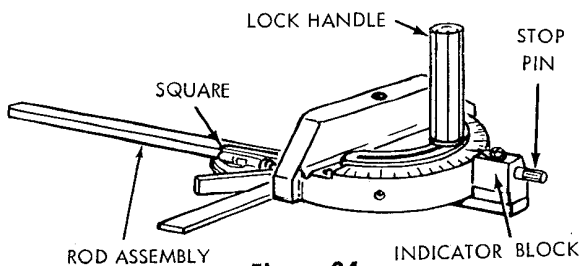

Figure 34
- (1) Loosen the lock handle and push the stop pin firmly into the middle detent ("0" position on the scale.) The stop pin will be seated more effectively if it is rotated slightly as it is being "pushed" into the detent. Tighten the lock handle. (See figure 34.)